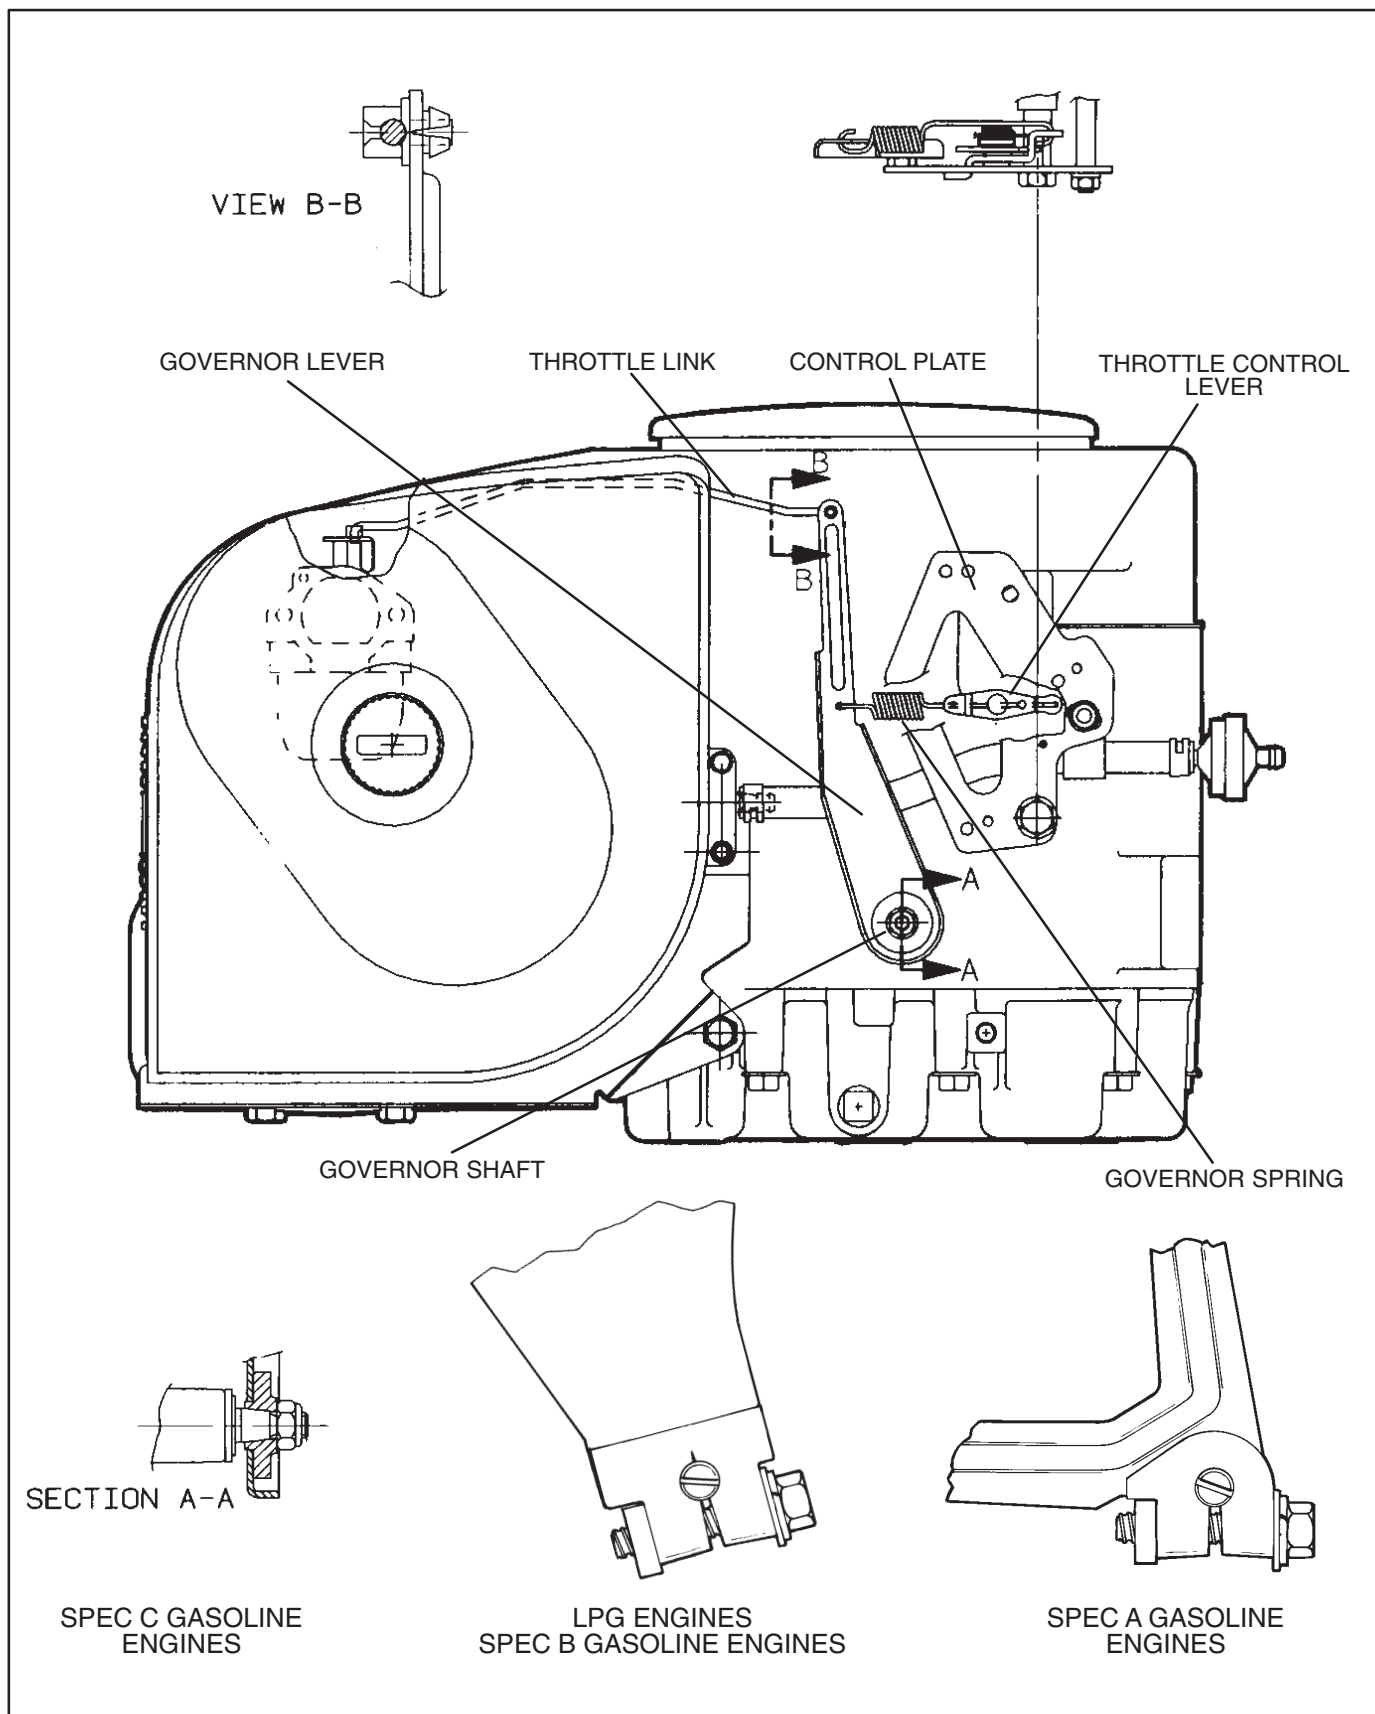

FIGURE 7-6. ENGINE GOVERNOR LEVER
Refer to Figure 7-6. The proper angular relationship between the governor lever and the governor shaft is essential for obtaining the full range of engine speed/load performance. The position of the governor lever should be readjusted whenever the intake manifold is reinstalled after removal for service.
3. Attach the governor spring, move the throttle control lever to align the lock pin holes in the control plate and throttle control lever and insert a pin to lock the lever in place. See Figure 7-6.